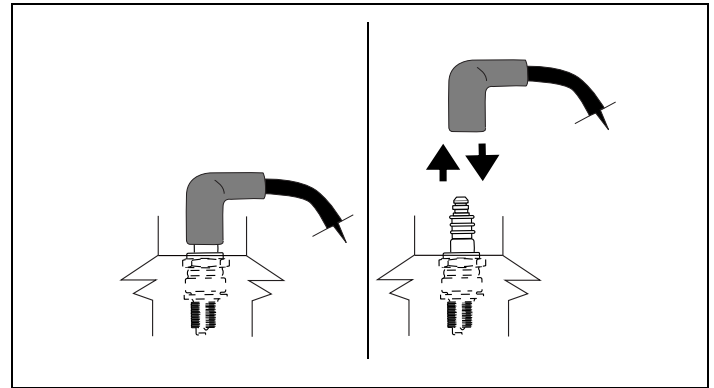

Figure 28. Disconnecting/Connecting Spark Plug
- Carefully disconnect spark plug wire and keep it away from spark plug. See Figures 28 and 29. See "G. Avoid Accidental Starts" instructions on page 2. Afterward, continue reading instructions below.